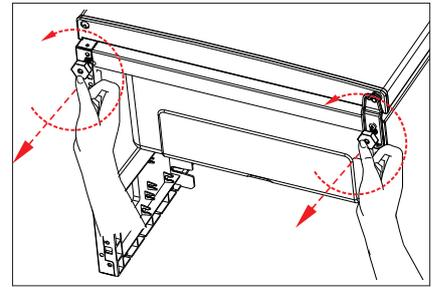

Fig. 1
- ▶ Remove both appliance feet (7) by turning anti-clockwise (Fig. 1).
- ▶ Keep the freezer door (4) closed.